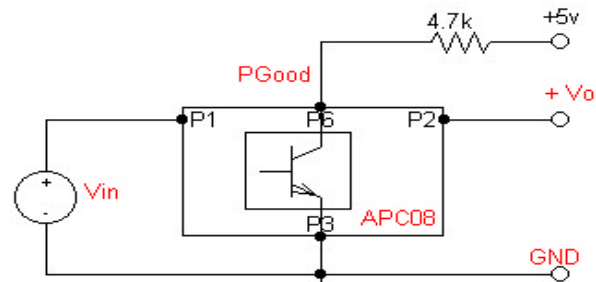

Figure 6. PGGood setup.
7. See Figure 6 for PGood configuration
PG pin provides an output signal indicating the V_{out} is operational (TTL logic signal). It can sink current up to a max of 5mA and can have a maximum external pull-up voltage of 6V. Please see recommended setup shown on Figure 6.